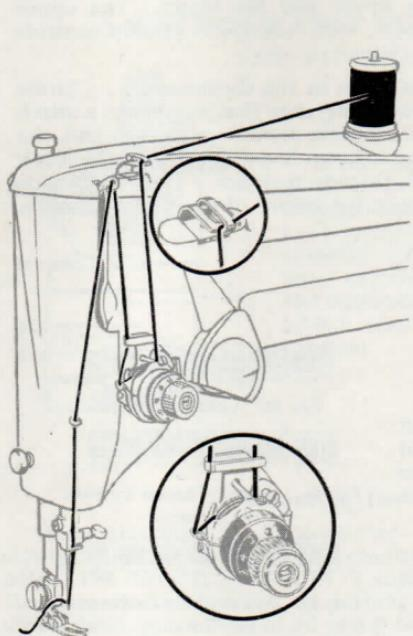

FIG. 30.
- Thread machine as shown in Fig. 30.